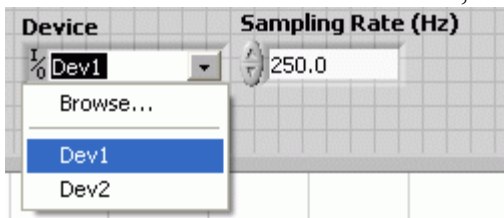

Figure 6: Selecting correct device.
2. Ensure the correct *Device* is chosen, as shown in Figure 6